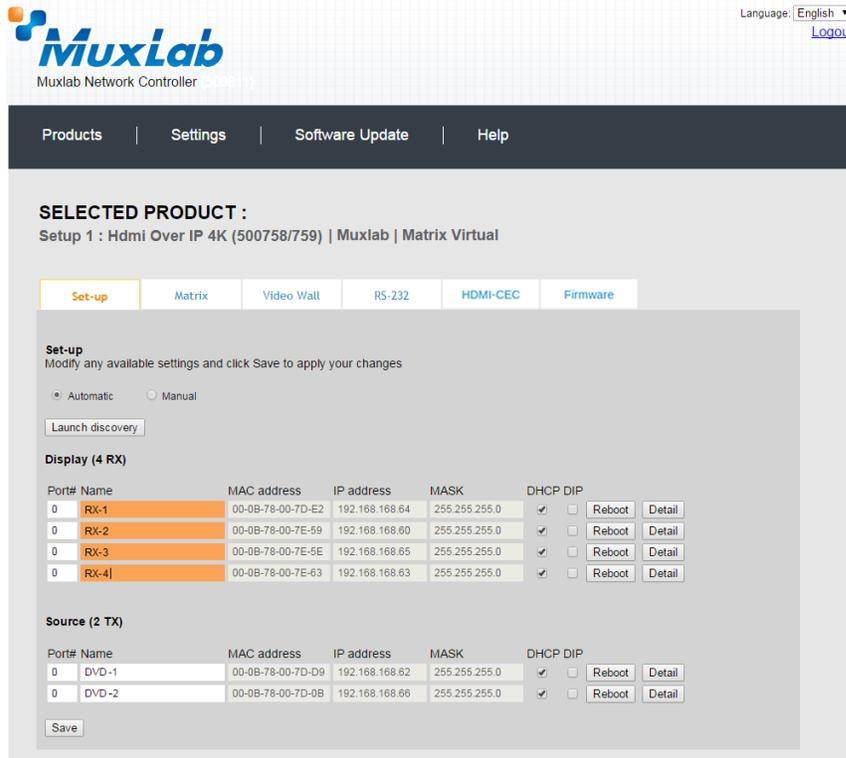

Figure 210: Name Editing
Each 500758/778 transmitter and receiver can be assigned an arbitrary descriptive name, normally reflecting the end device that it is terminated to. To change the name of any Display (RX) or Source (TX) device, click the **Name** field to edit its contents. Several **Name** fields can be edited before saving changes, as shown in Figure 210 (orange highlighted fields).